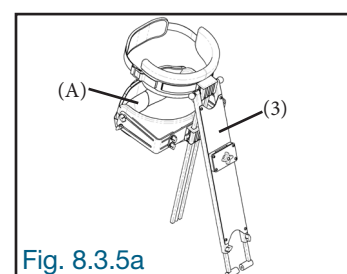
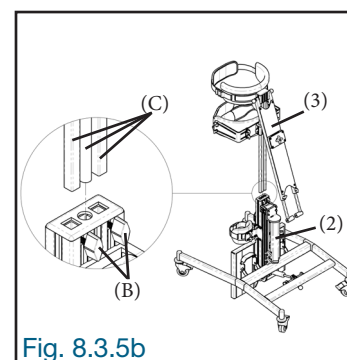

Fig. 8.3.5a
Fig. 8.3.5b
8.3.5 On the stabilizer (3), move the hip stop (A) upwards to release the lower part of the rods (Fig. 8.3.5a). Loosen the two locking knobs (B) at the back of the chassis (2) slightly. Insert the rods (C) of the stabilizer (3) into the frame (2). Tighten the locking knobs (B) at the back of the frame (2) (Fig. 8.3.5b).